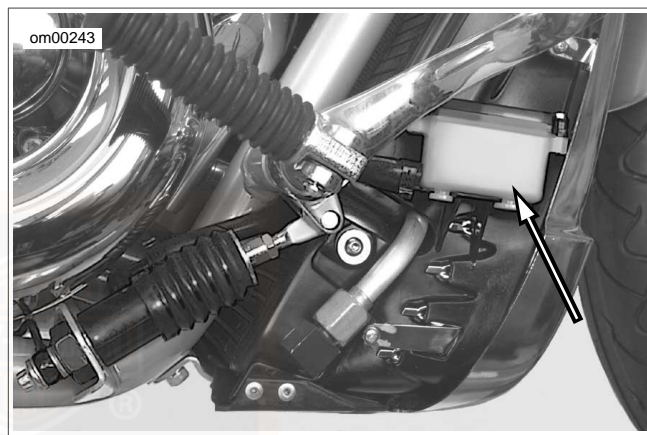

Figure 38. Rear Brake Master Cylinder Reservoir: VRSC Models
- b. See Figure 38. Verify the fluid level in the rear brake master cylinder reservoir is 1/2 in. (12.7 mm) below the top of the reservoir, as viewed through the translucent plastic case of the reservoir.